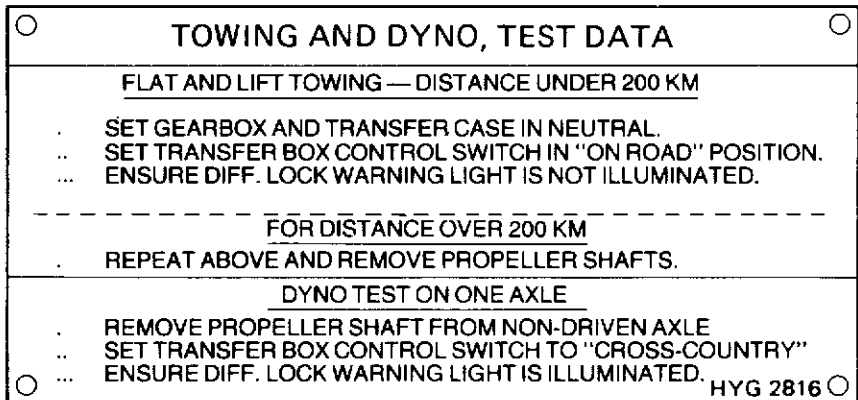

Figure 1-21 Towing and dyno test data plate
99. Towing and dyno test data plate (Fig. 1-21)